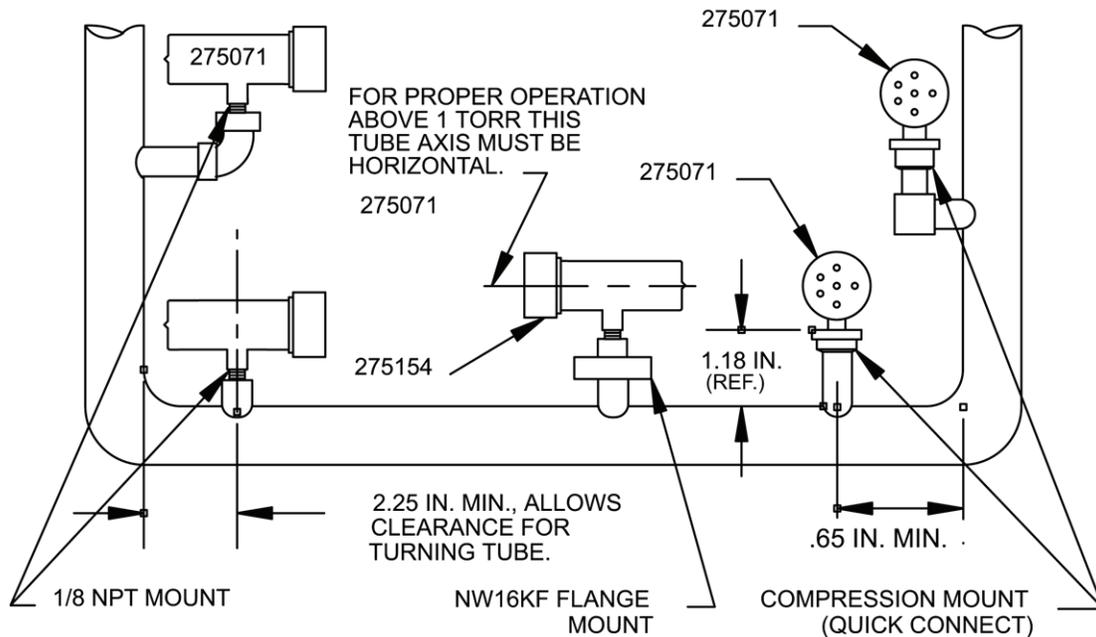

Figure 2-2 Convectron Gauge Mounting Clearances
**Above 1 Torr:** The gauge tube will accurately measure pressures above 1 Torr only when mounted with its axis horizontal, preferably with the port pointing vertically downward, as shown in Figure 2-2. It is valuable to point the port downward to facilitate the removal of condensation and other contaminants.